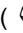

Fig. 44: Insert process connection (inlet)
- 4.** ➤ Insert the process connection (inlet) into the device body (inlet) (Fig. 44)